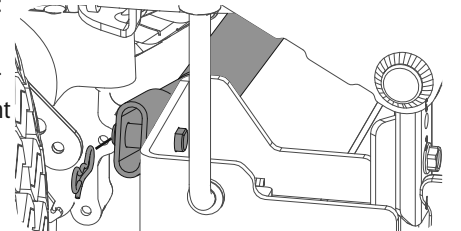

Figure 49
- a. Remove the bow-tie cotter pin on the right side of the bar connecting the bar with the bracket on the deck. See Figure 49.